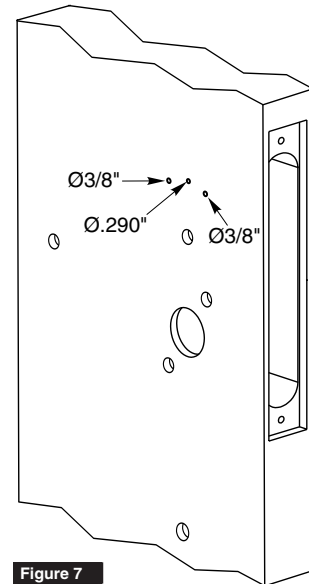

Figure 7
Drill one (1) middle hole (.290") and two (2) outer holes (3/8") halfway through door. (Figure 7)